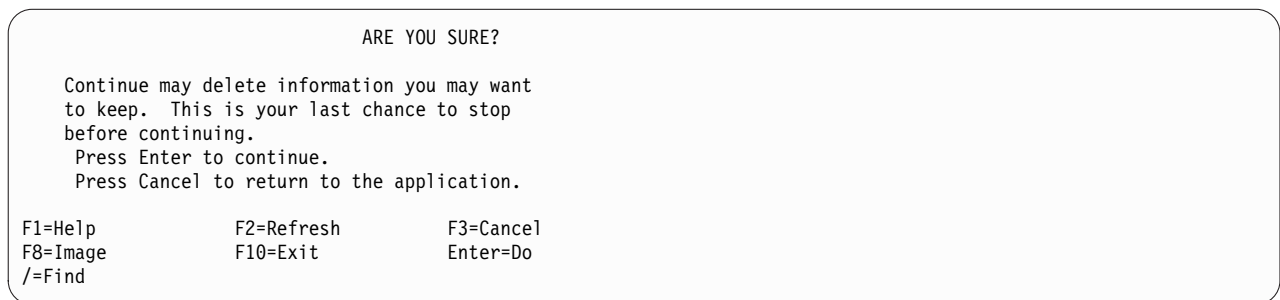

Figure 33. Warning Message for Processing AOTM To a Remote Cluster
7. Press **Enter**. You see Figure 33.